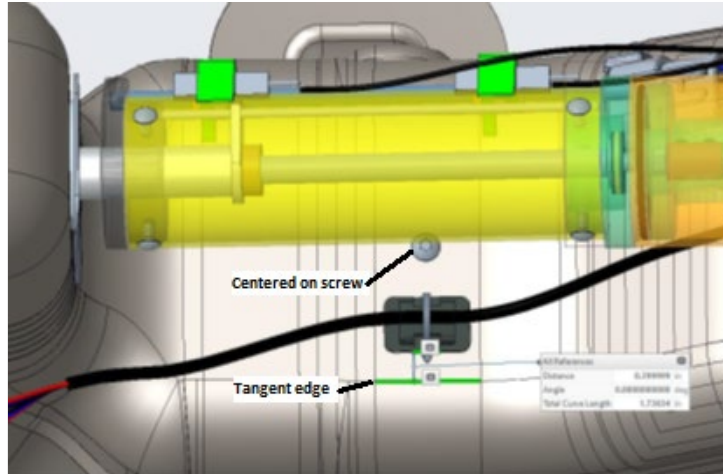

Figure 18. NLG retrofit Tie mount block
NOTE: If additional slack for harness is needed, it is permissible to also relocate the zip- tie shown in **Figure 18.**
20. Install tie mount on the NLG box. Center the mount with screw and about 0.400 inch upwards from tangent edge as shown in **Figure 18** below.